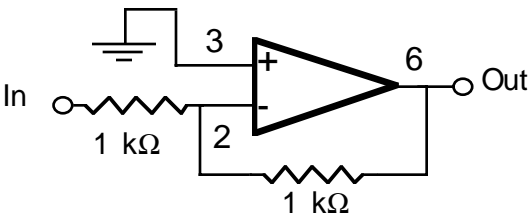

Figure 4
4) Inverting amplifier (Fig. 4). In this circuit the noninverting input is at ground. In order to keep the inverting input near ground the amplifier must "balance" a positive input with a negative output, and *vice versa*. Measure the voltage at the inverting input. The inverting input is said to be at a "virtual ground." Observe the performance of the amplifier on the oscilloscope. *What is the gain of the amplifier? What happens if you connect the inverting input to a "real" ground?*